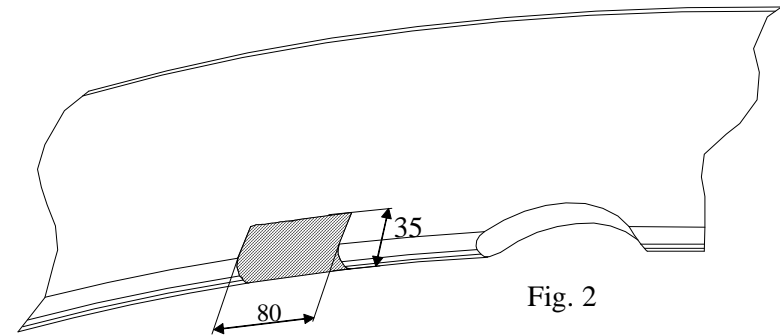

Fig. 2
- 2) Cut out fragment of the bumper in his bottom part, in axis – see fig. 2).
- 3) To left chassis member fix loosely element pos. 4 through holes A using bolts M12x40mm (pos. 7), next through technological hole put nut with handle in that way so nut tally with hole B and next fix using bolt M12x40mm (pos. 7).
- 4) To right chassis member fixw element pos. 3 (fix as element pos. 4).
- 5) Between installed elements put main bar of the towbar pos. 1 and fix all using bolts M12x40mm (pos. 7).